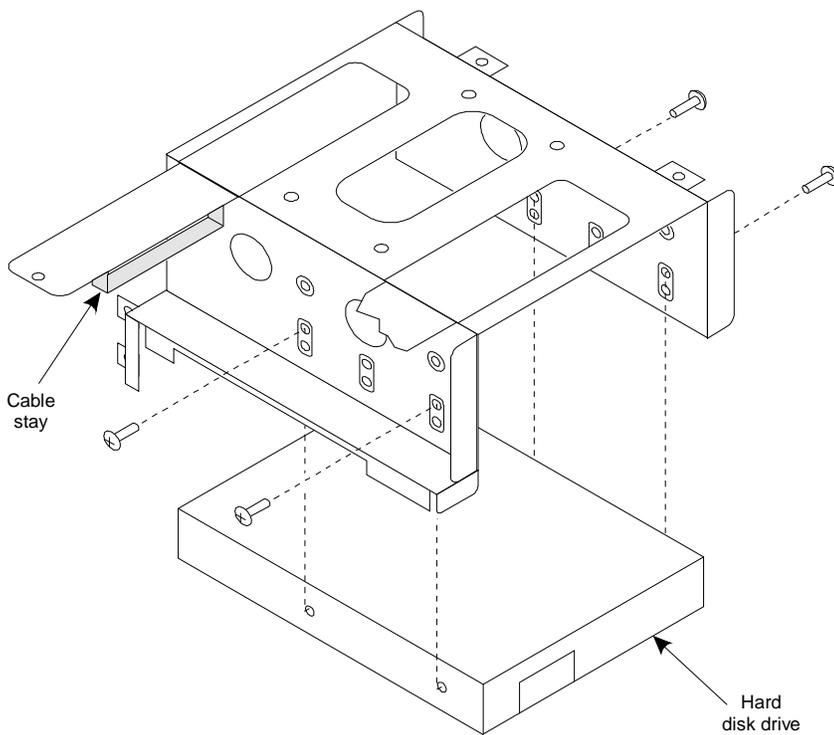

Figure 10-7. Mounting the Second Hard Disk in the Mounting Bracket
1. Mount the second hard drive, component side down, with two screws on each side of the mounting bracket as shown in Figure 10-7.
Ensure that the tape drive grounding strap is secured under the front outside mounting screw as shown in Figure 10-7.